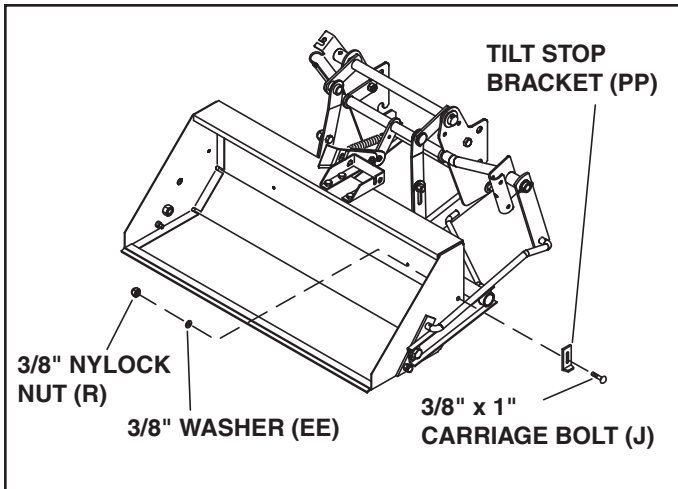

FIGURE 9
STEP 10: INSTALL TILT STOP BRACKETS (SEE FIGURE 9)
- Install a tilt stop bracket (PP) to each side of the bucket using a 3/8" x 1" carriage bolt (J), 3/8" washer (EE) and 3/8" nylock nut (R). **Do not tighten** the nuts until step 27.